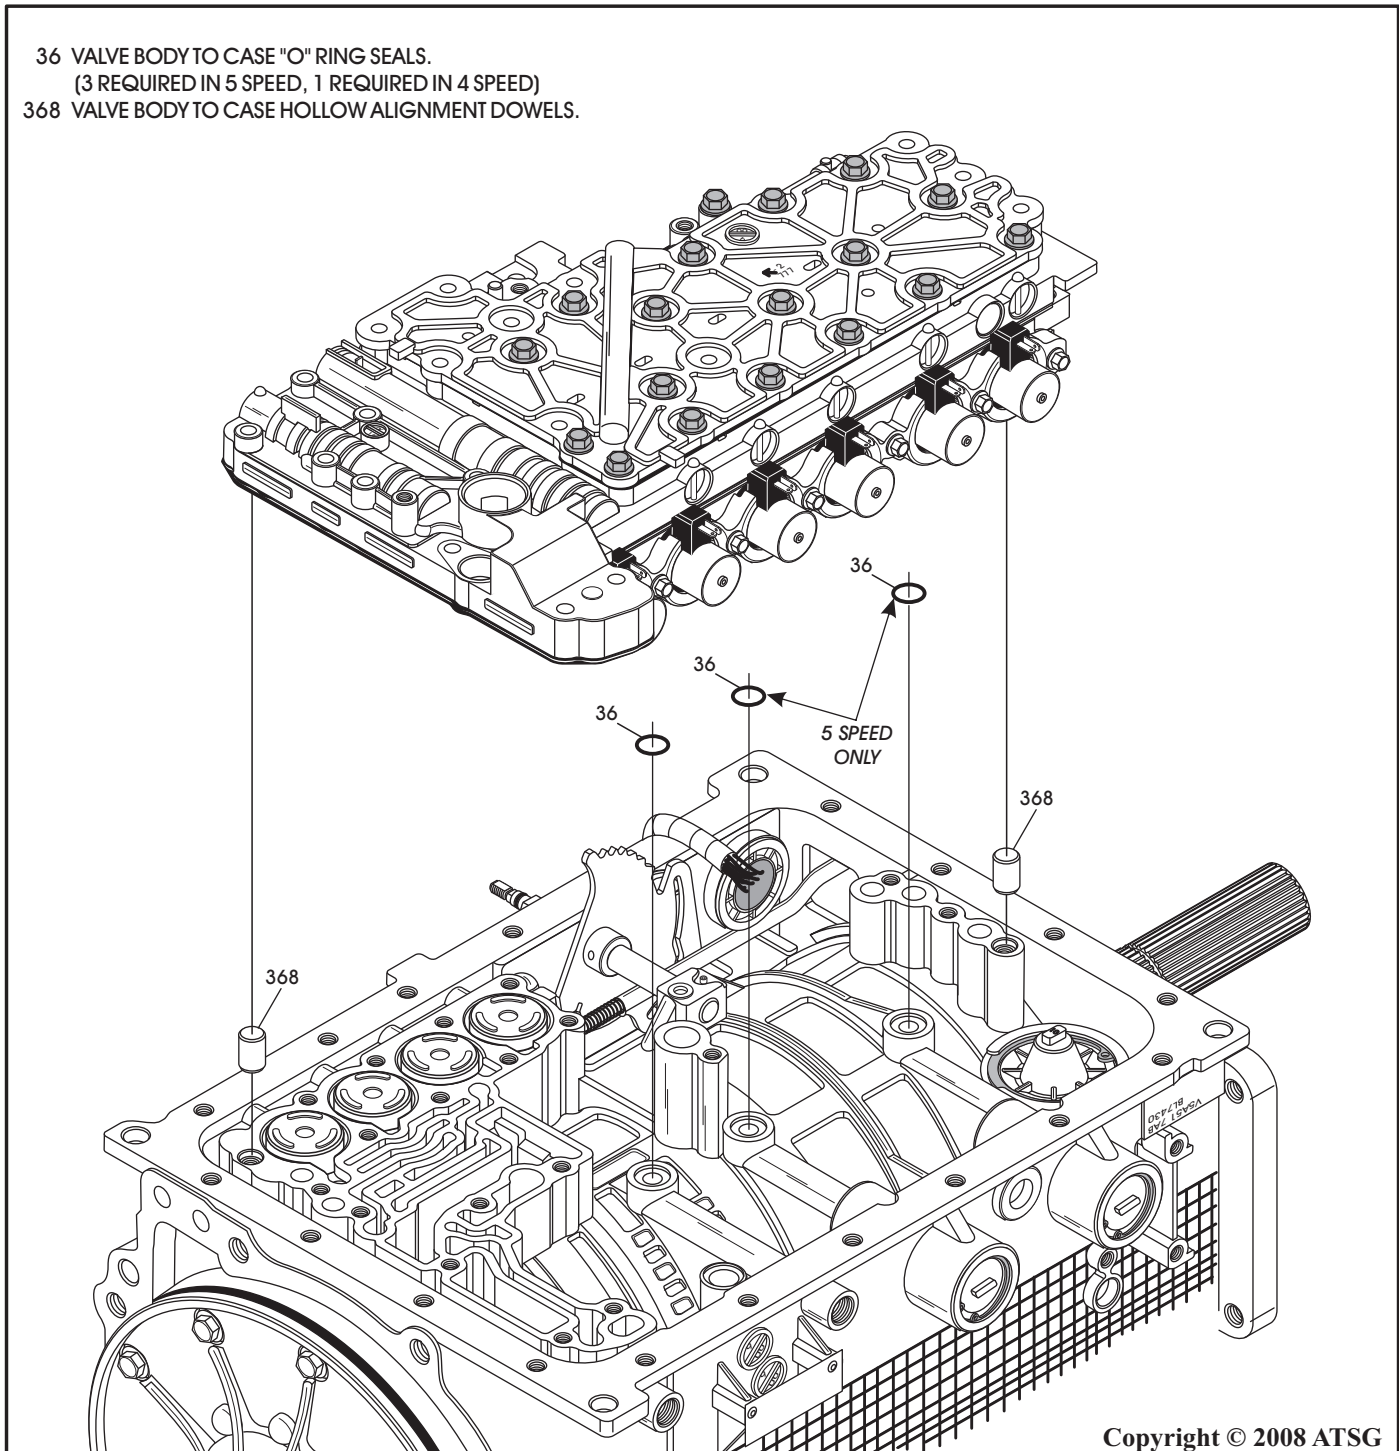

Figure 36
8. Remove the valve body assembly, as shown in Figure 36, and set aside for component rebuild.
Refer to Figure 36.